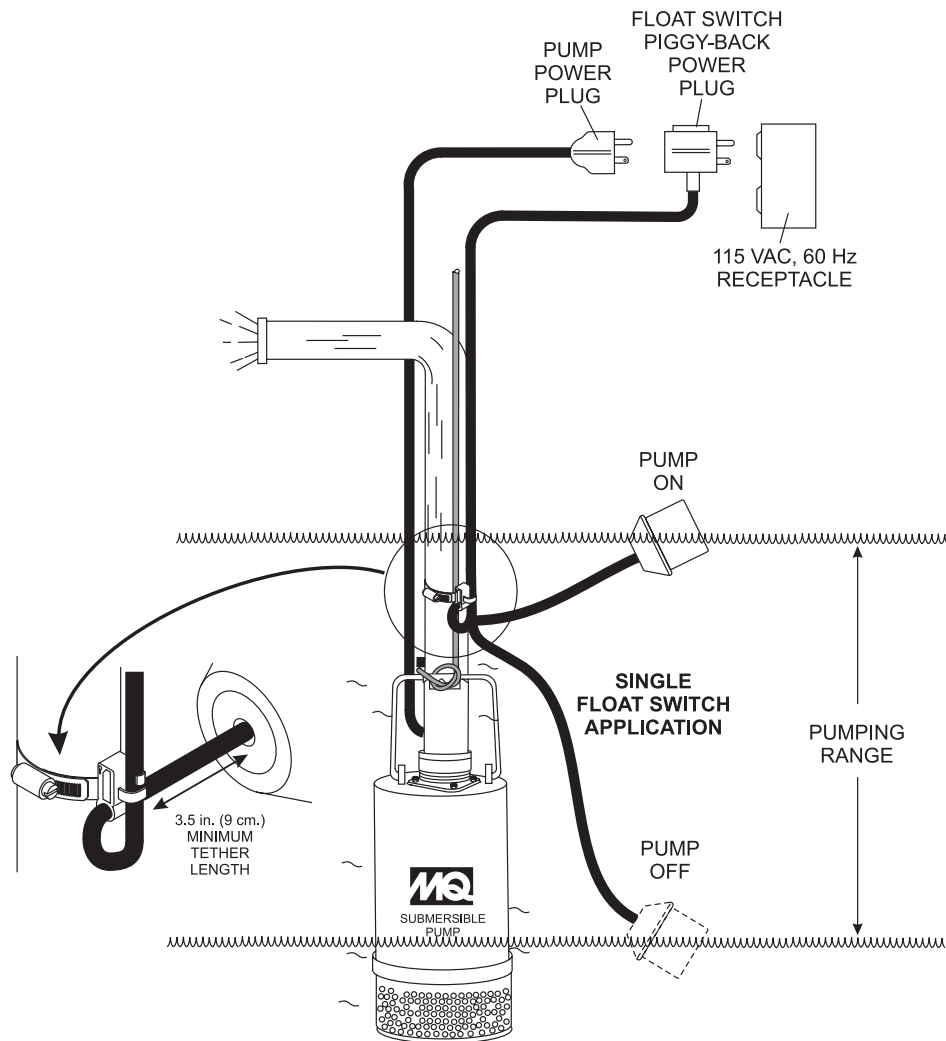

Figure 6. Single Float Switch Application Diagram
**Single** or **dual** control float switches (Figure 6) can be used for the unattended operation of the submersible pump. When using the **piggy-back power configuration** (plug), the ST-2010 series pumps **DO NOT** require the use of a control box. In this configuration (piggy-back), the SW-1 (single float switch) or SW-2 (dual float switch) are required. The illustration below is an example of a single float switch application.
1. Determine the required **cord tether length** as shown in Figure 6 and Table 3.
2. Place the cord into the clamp as shown in Figure 6.
Figure 6 shows a **single float** switch application. For dual float switch capability use a **Model SW-2** mercury type float switch.
2. Connect the float switch or switches to the AC power receptacle as shown in Figure 6.
1. Remove the float switch input connector housing, then route the float switch wires through the cable gland on the control box. Attach the wires of the float switch to the terminal block as indicated by Table 5 and Figure 6.